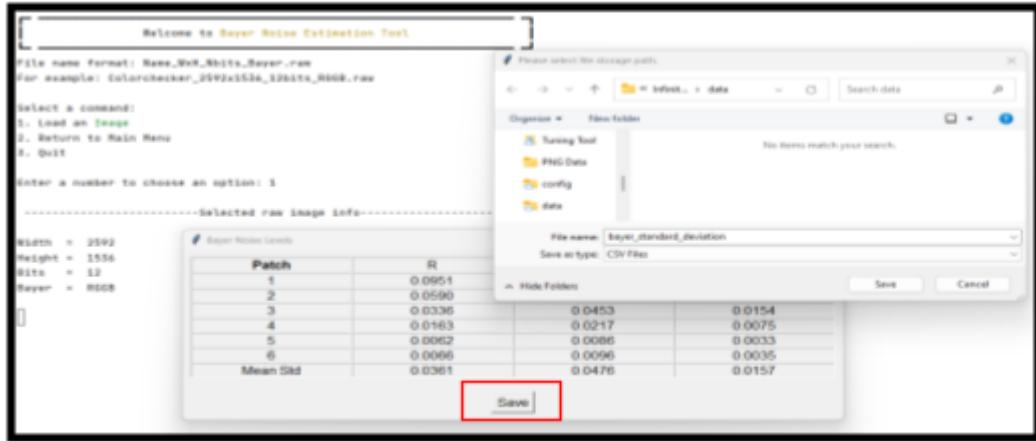

Figure 11: Example of saving csv file from the GUI using save button
2. Saving the data to a CSV file by clicking on the save button provided on the graphical user interface (GUI) that can be seen in Figure 11.